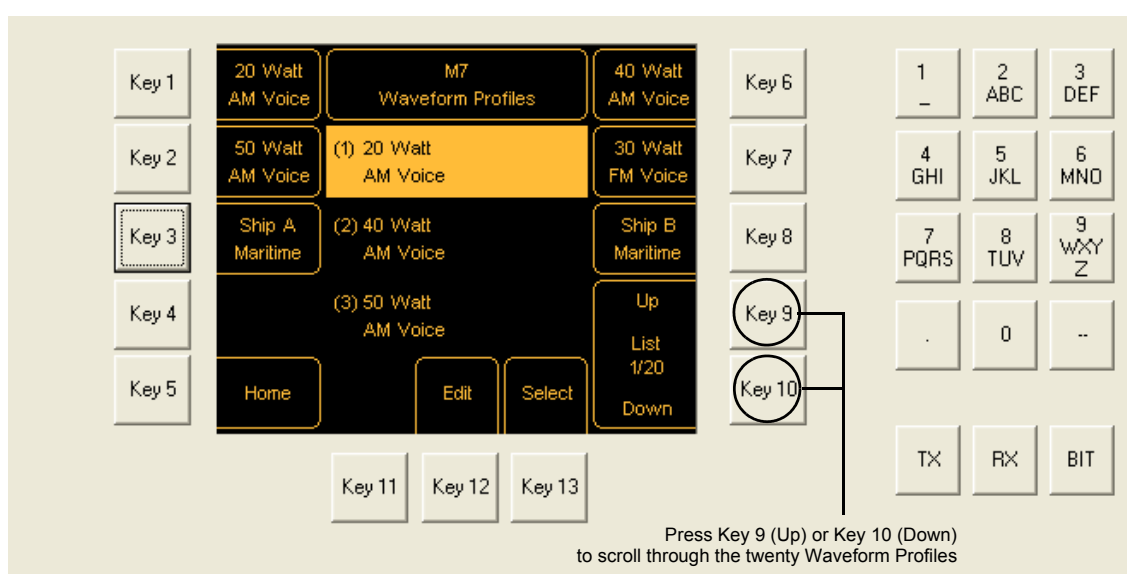

Fig 3-18 Example Waveform Profile List Screen
- (2) The Waveform Profiles list screen (Fig 3-18) makes the 20 stored profiles available for selection by scrolling through the list using **Key 9** and **Key 10**. An additional feature makes the first six Waveform Profiles (WP1 to WP6) available for immediate recall by pressing **Key 1**, **2**, or **3** (for WP1, 2 or 3 respectively) or **Key 6**, **7**, or **8** (for WP4, 5 or 6 respectively). If the immediate recall facility is required, press the appropriate key.
- (3) If a Waveform Profile that is not available on the immediate recall keys is required, press **Key 9** or **Key 10** to scroll through the list of 20 profiles. When the required Waveform Profile is highlighted, press **Key 13** to select the profile.